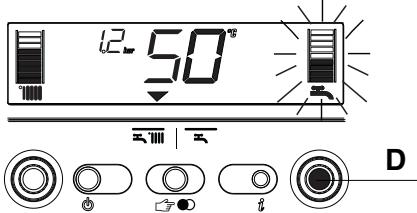

Fig. 55
**CASE C** only heating + water tank with sensor: to adjust domestic hot water temperature stored in the water tank, turn switch **D** (fig. 55): clockwise to increase and anticlockwise to decrease. The bar segments light up (every 3°C) as the temperature is increased. About 4 seconds after the selection has been made, the modification is memorised and the display returns to the delivery temperature read by the sensor.